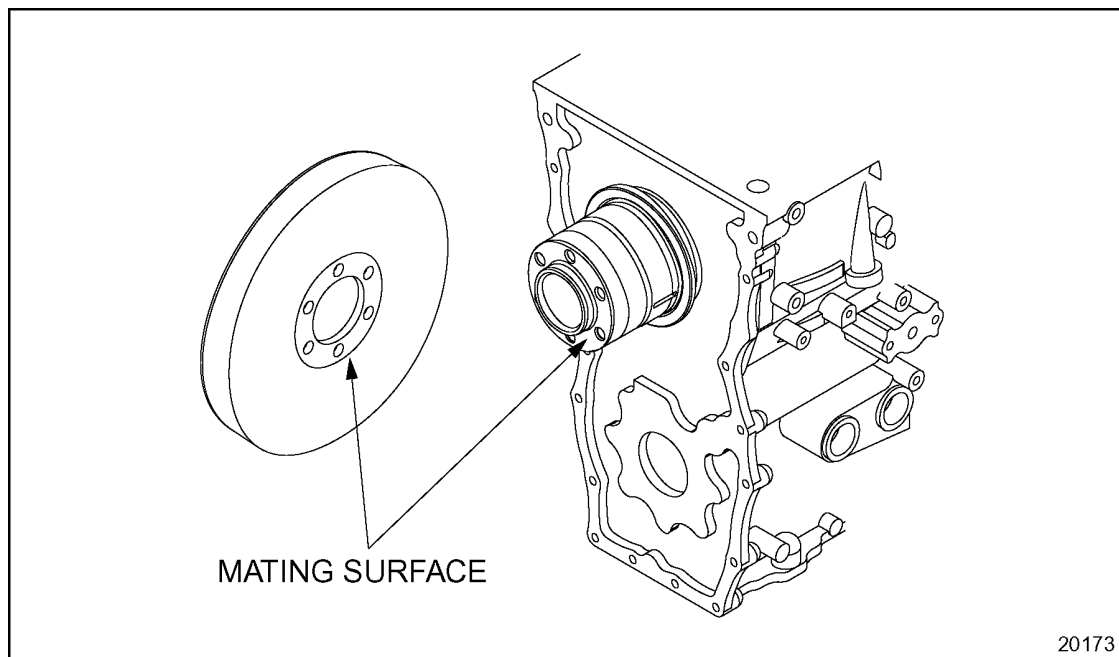

Figure 1-196 Damper and Crankshaft Contact Surfaces
2. Inspect the damper inner contact surfaces and the crankshaft end for damage. See Figure 1-196